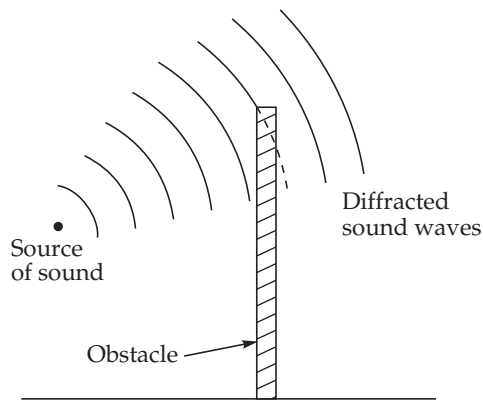

Fig. 1.20
1.22 DIFFRACTION (SCATTERING) OF SOUND (Fig. 1.20)